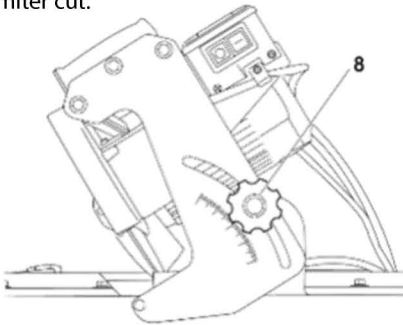
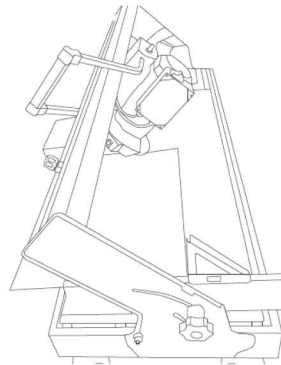

Fig.9
Fig.10
• Performing a miter cut (Fig.9&Fig10)
1. Loosen the angle setting clamping knob (8) on both sides of the product..
3. Re-tighten the knob (8).